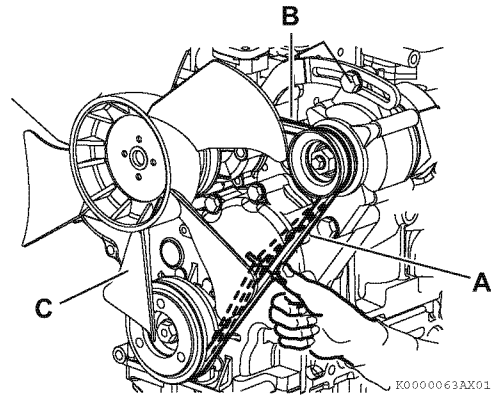

Figure 1
There are three positions to check for V-belt tension (**Figure 1, (A), (B) and (C)**). You can check the tension at whichever position is the most accessible. The proper deflection of a used V-belt at each position is: